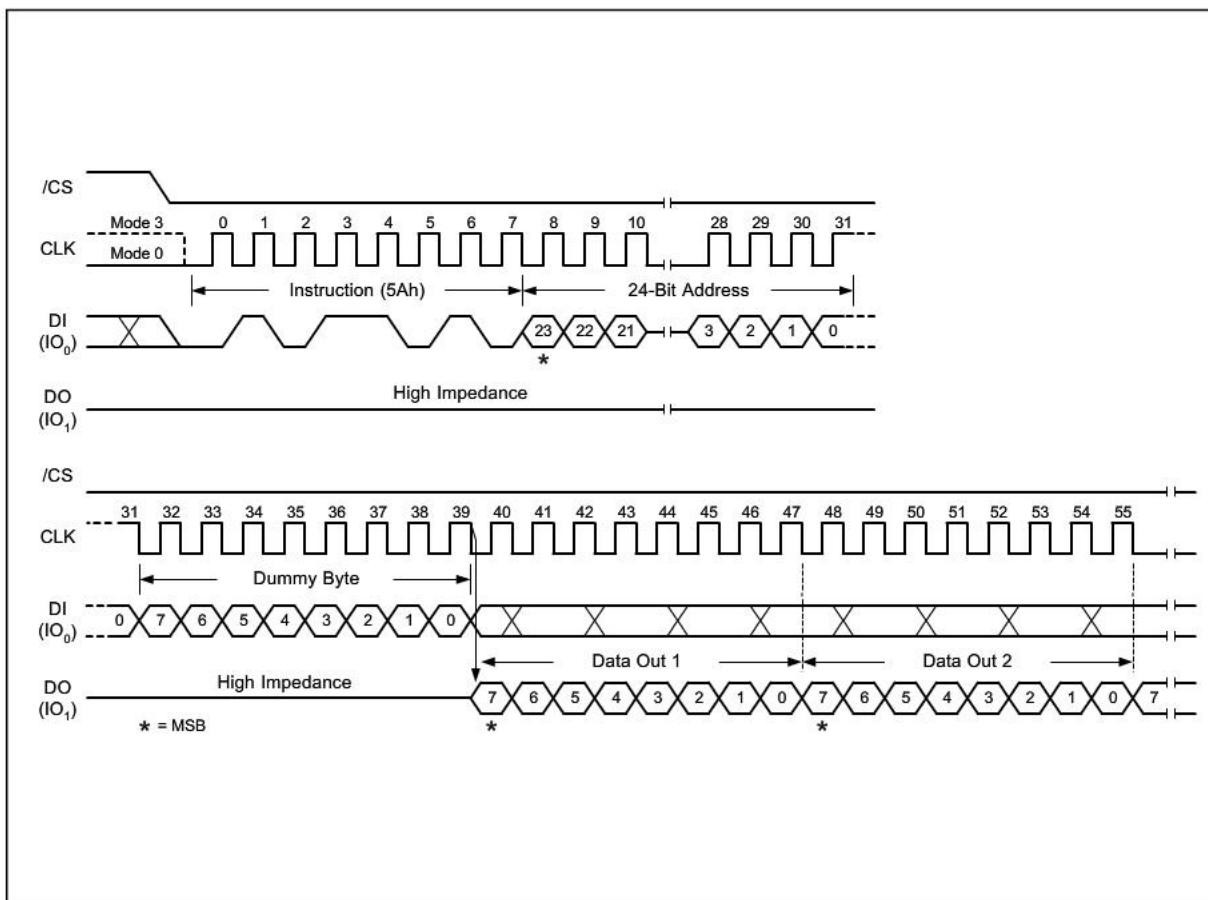

Figure 34. Read SFDP Register Instruction Sequence Diagram
The Read SFDP instruction is initiated by driving the /CS pin low and shifting the instruction code "5Ah" followed by a 24-bit address (A23-A0)(1) into the DI pin. Eight "dummy" clocks are also required before the SFDP register contents are shifted out on the falling edge of the 40th CLK with most significant bit (MSB) first as shown in figure 34. For SFDP register values and descriptions, refer to the following SFDP Definition table.